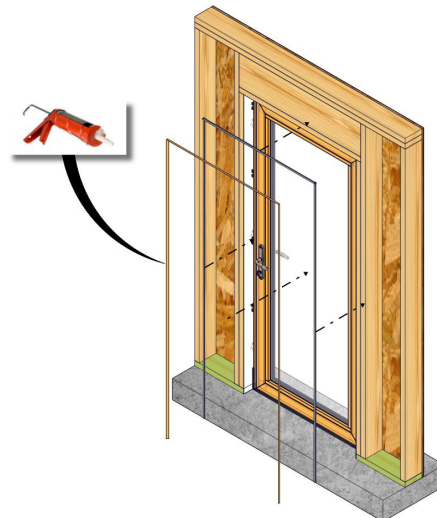

Fig. 13
3. Apply insulation and a continuous bead of sealant around the entire interior perimeter of the door unit. (Fig. 13)